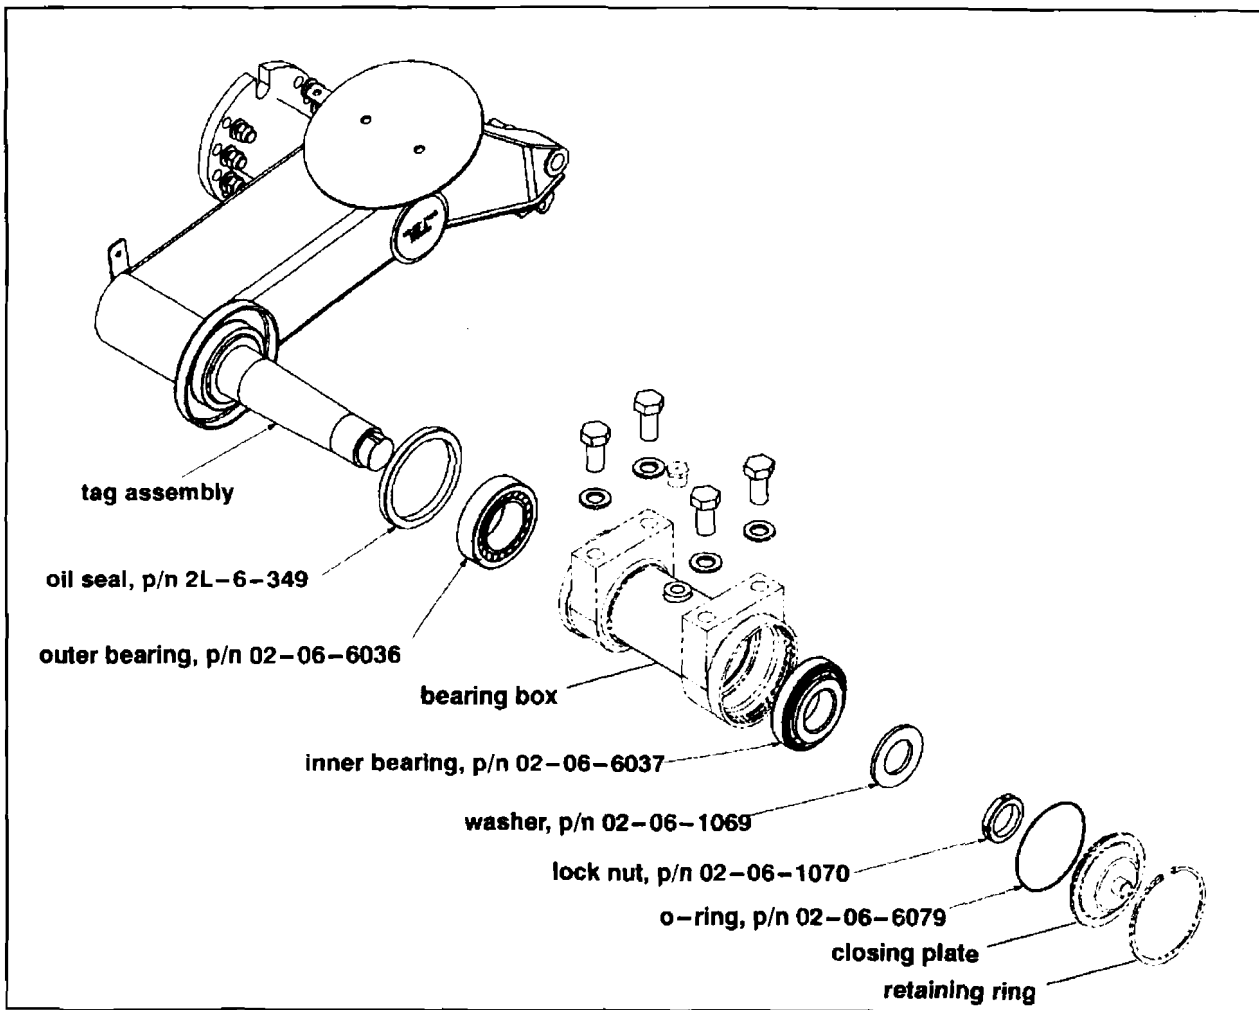

Figure 4.
9. Remove the drain plug from the bearing box. Dispose of oil in an appropriate manner. Remove and retain the retaining ring and closing plate from the bearing box assembly (Figure 4). Remove and discard the o-ring from the bearing box. Remove and discard the shaft nut and washer from the end of the tag axle arm trunnion shaft.
11. Re-assemble the bearing box and tag axle arm using a new outer bearing (p/n 02-06-6036), oil seal (p/n 2L-6-349) and re-using the existing inner bearing (p/n 02-06-6037) removed in Step 10. (Figure 4). Install the new washer (p/n 02-06-1069) and lock nut (p/n 02-06-1070).
30. Remove and retain the retaining ring and closing plate from the bearing box assembly (Figure 4). Remove and discard the o-ring from the bearing box. Remove and discard the shaft nut and washer from the end of the tag axle arm trunnion shaft.